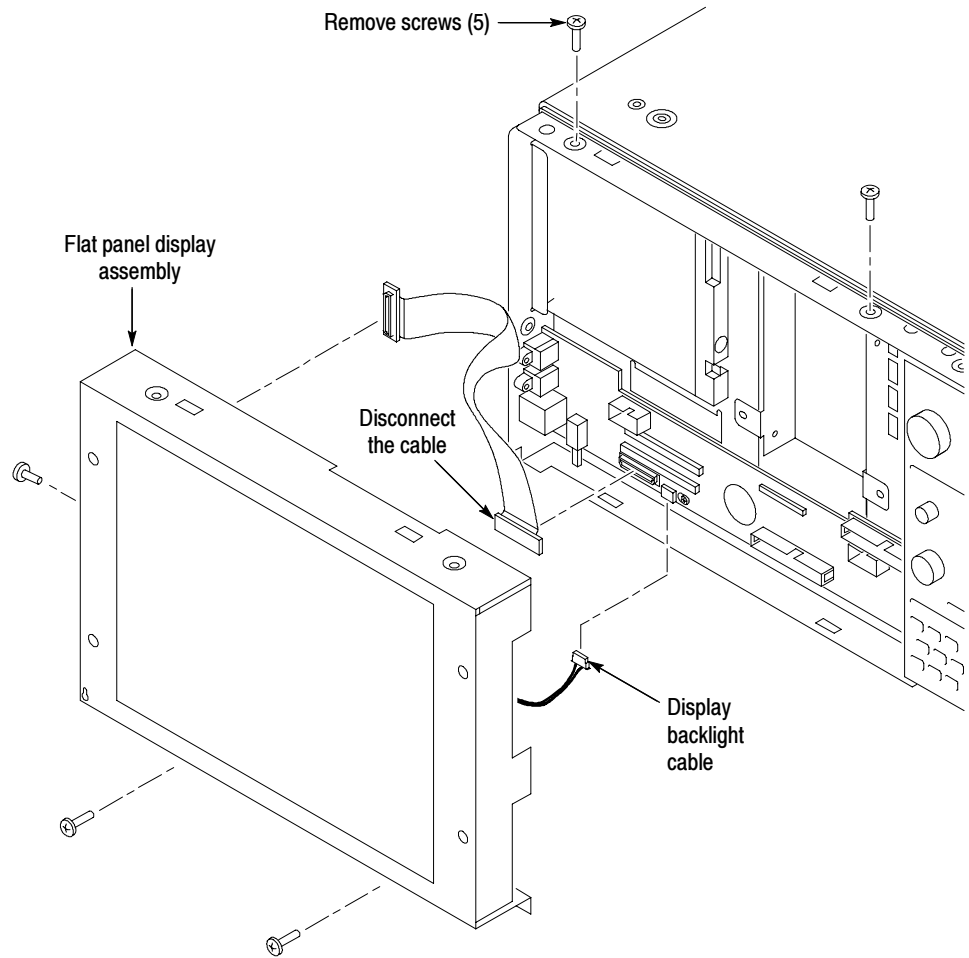

Figure 2: Flat panel display assembly removal
1. Remove the five screws that attach the flat panel display assembly to the mainframe (See Figure 2).